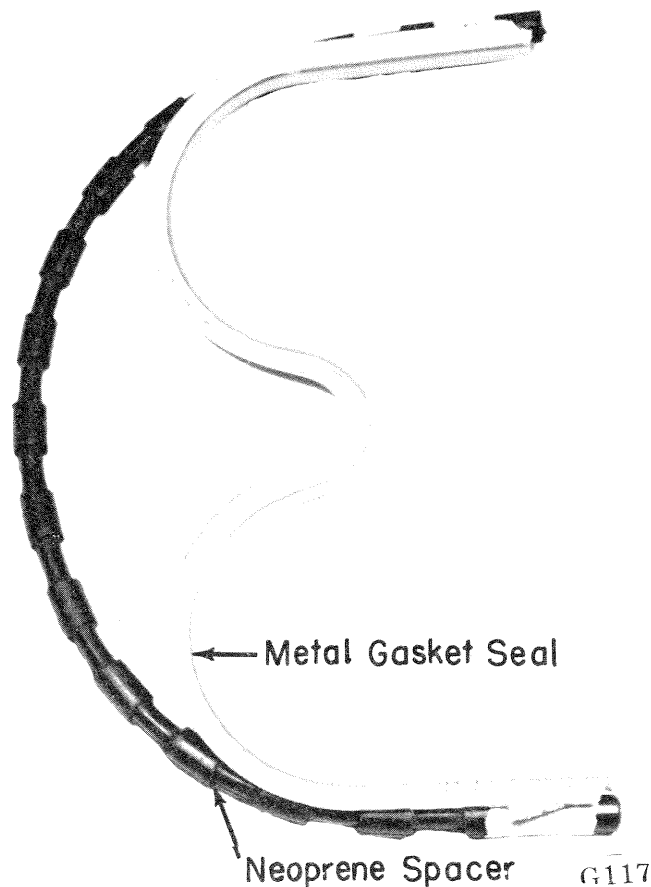

Figure 14
3. Position gasket, spacer and "W"-shaped gasket seal, fig. 14, in front cover recess. Fig. 8.